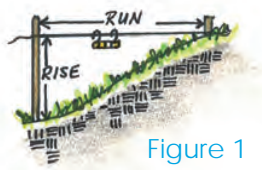

Figure 1
- Place one stake at the uphill end of the slope and another at the downhill end (Figure 1).